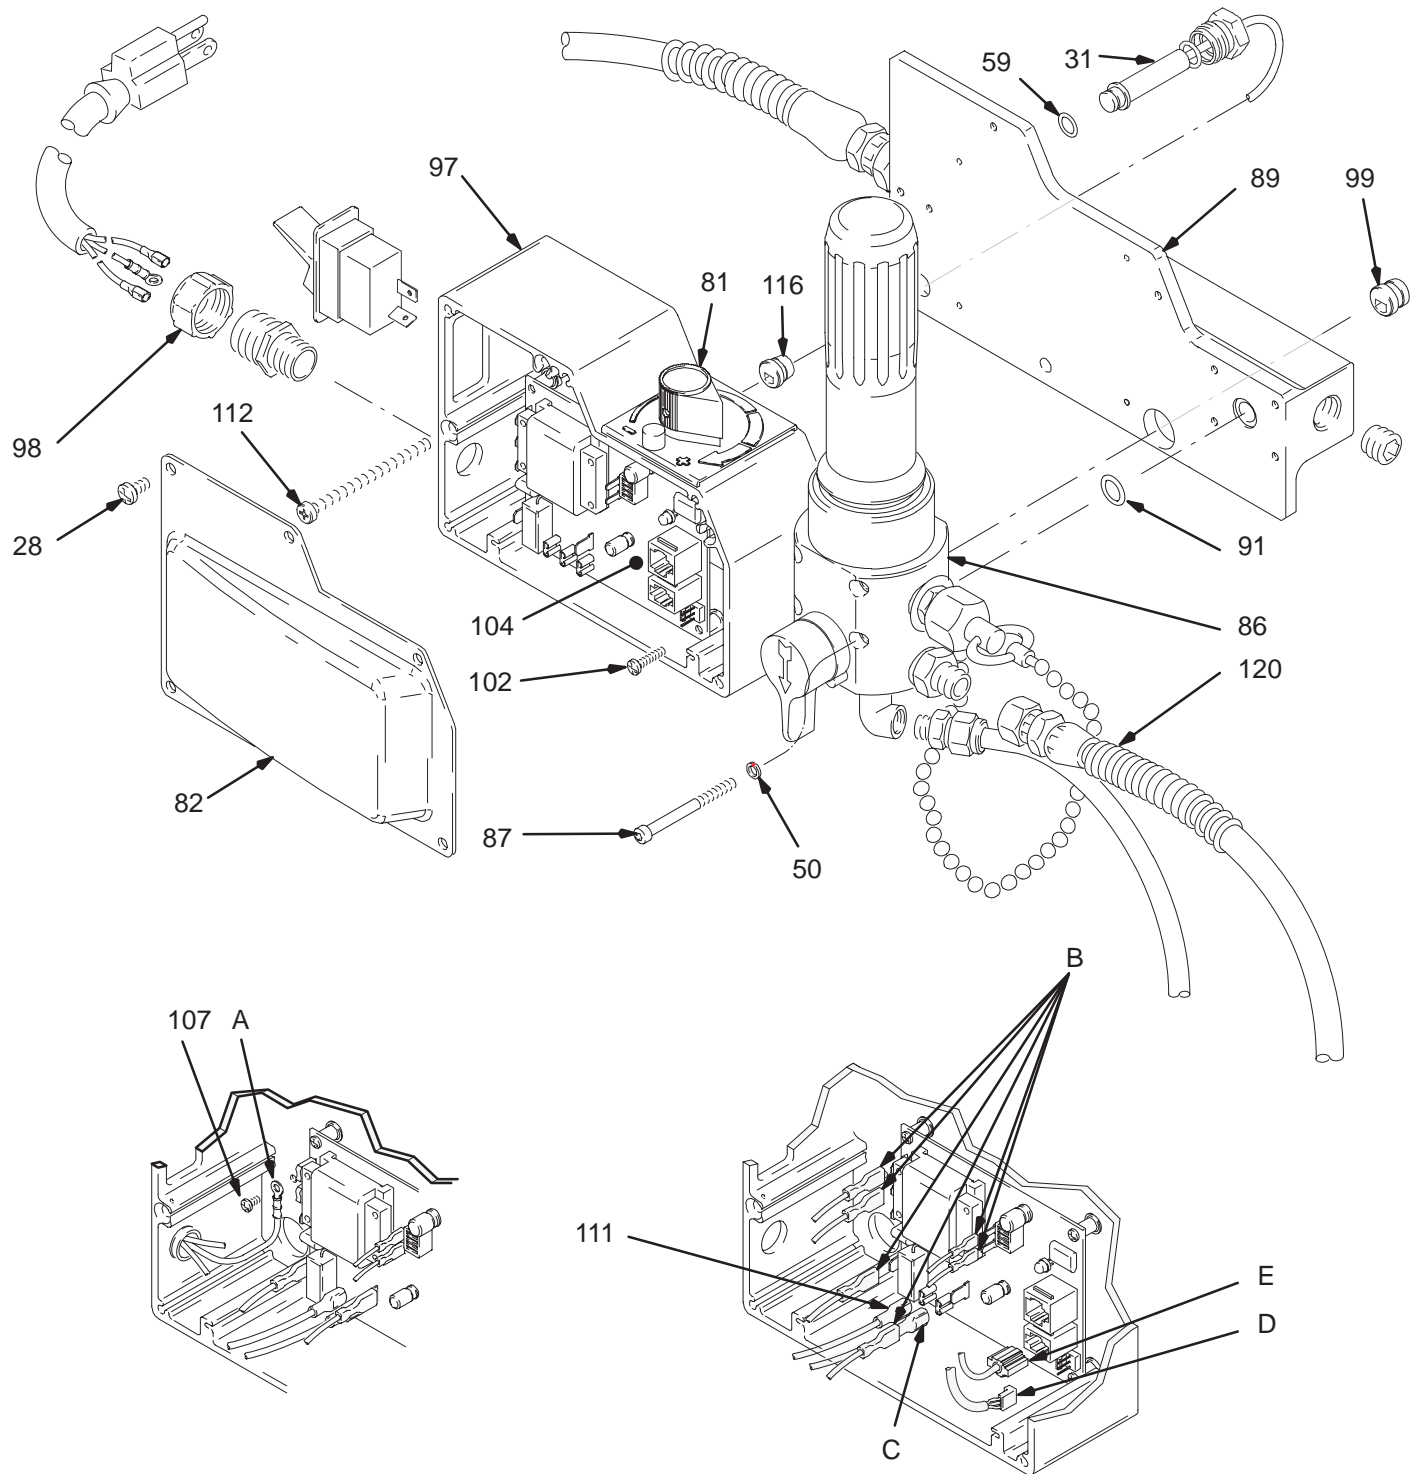

Fig. 16
2. Fig. 16. Remove five screws (28) and cover (82).
- Six motor leads (B).
- Lead (C) from power cord.
- Lead (111) from ON/OFF switch.
- Lead (D) from potentiometer.
- Lead (E) from transducer.
4. Remove four screws (102), washers (103) and circuit board (104).
2. Fig. 16. Install motor control board (104) with four screws (102) and washers (103).
- Lead (E) to transducer.
- Lead (D) to potentiometer.
- Lead (111) to ON/OFF switch.
- Lead (C) to power cord.
4. Install cover (82) with five screws (28).
2. Remove five screws (28) and cover (82). See Fig. 16.
3. Disconnect lead (E) from motor control board (104).
4. Remove strain relief bushing (116).
5. Remove pressure control transducer (31) and packing o-ring (59) from control housing plate (89).
2. Fig. 16. Install packing o-ring (59) and pressure control transducer (31) in control housing plate (89). Torque to 30–35 ft-lb.
3. Install strain relief bushing (116).
4. Connect lead (E) to motor control board (104).
5. Install cover (82) with five screws (28).
3. Disconnect lead (D) from motor control board (104).
4. Remove potentiometer knob (81), sealing shaft nut (106) and pressure adjust potentiometer (105).
2. Fig. 16. Install pressure adjust potentiometer (105), sealing shaft nut (106) and potentiometer knob (81).
3. Connect lead (D) to motor control board (104).
NOTE: Read **General Repair Information** on page 16 before doing this procedure. See Fig. 16 and 19.
2. Remove motor shield (54).
3. Remove pressure control cover (82). Disconnect six motor leads (B). See figure 16.
4. Remove strain relief (99) by pushing from behind and into the control box. Pull motor wires bundle through pressure control opening. See figure 16.
5. Remove front cover (49).